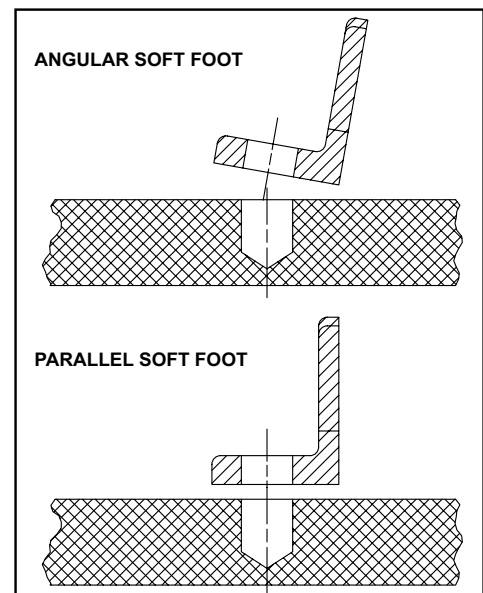

Figure 3 - Illustrations of Soft Foot
Soft foot is a condition in which one of the blower or vacuum booster feet does not sit flat on the base. Usually, this is due to irregularities in the surface to which the blower is mounted. When you tighten the bolt on the foot, the blower will distort slightly, but enough to cause problems with bearing and seal life, and premature internal contact between the rotors and the housing. Figure 3 illustrates the soft foot condition.
2. Check each foot for gaps between foot and base (soft foot), shim as necessary to fill gap within .002" (.05 mm) The two most common types of soft foot conditions are shown in Figure 3. If either type is present, and measures more than .003" (.076 mm), the blower may fail prematurely.